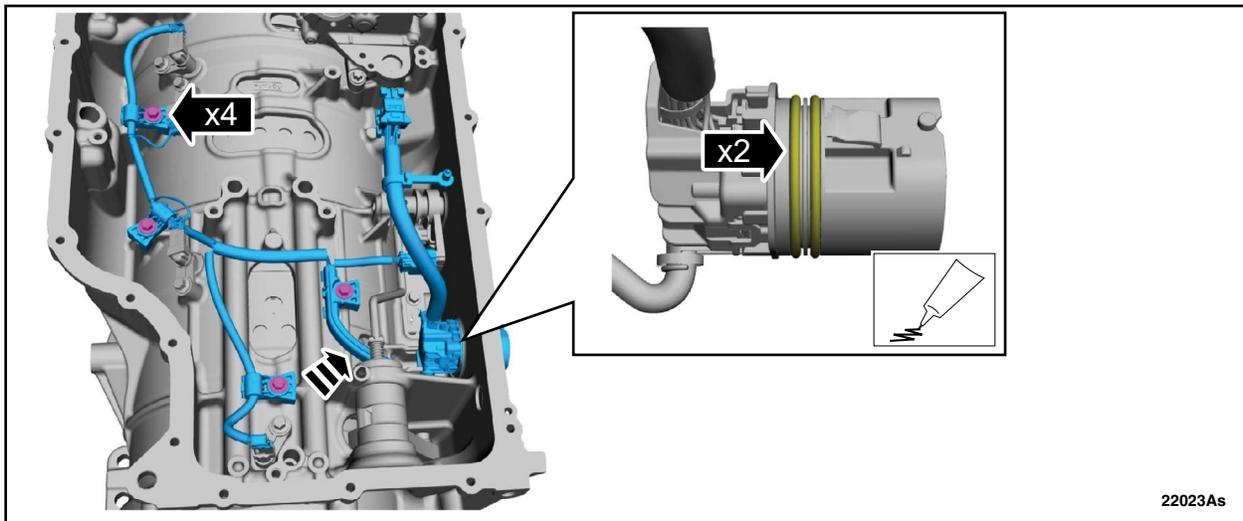

FIGURE 66
75. Lubricate the O-ring seals with petroleum jelly, route the wiring harness under the park pawl rod, and install the bolts. See Figure 66.